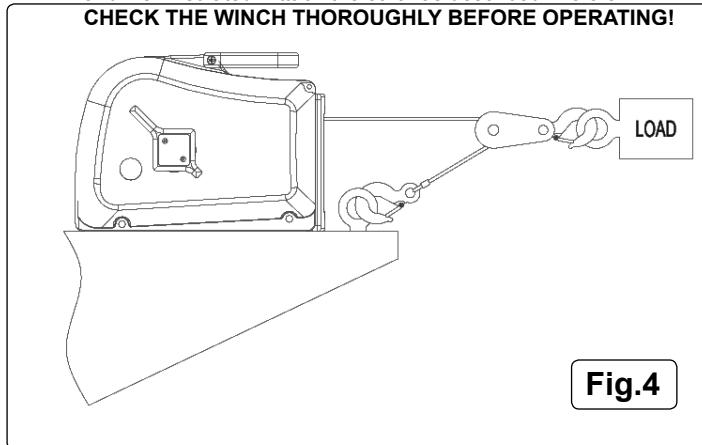

Fig.4
3.2.3 For double line use, install an eye hook on the winch stand close to the base of the winch for fastening the stationary cable hook, see fig.4. Be sure that the eye hook is of sufficient strength to withstand loads in excess of the single line rating of the winch.